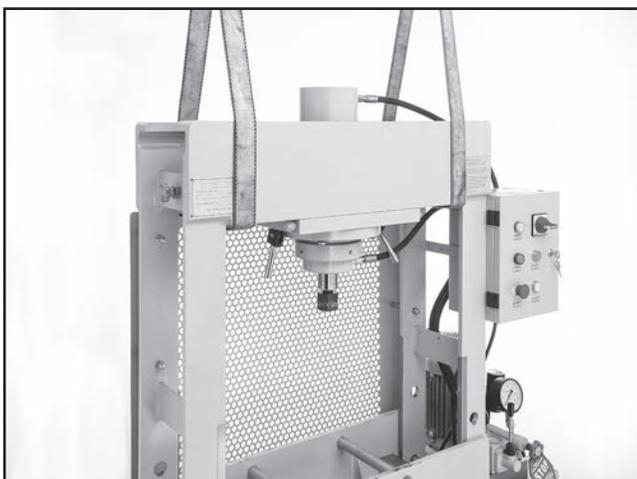

Figure 9. Lifting strap placement on machine.
4. Use forklift and lifting straps (see **Figure 9**) to lift machine to just clear pallet, then remove pallet from under machine.